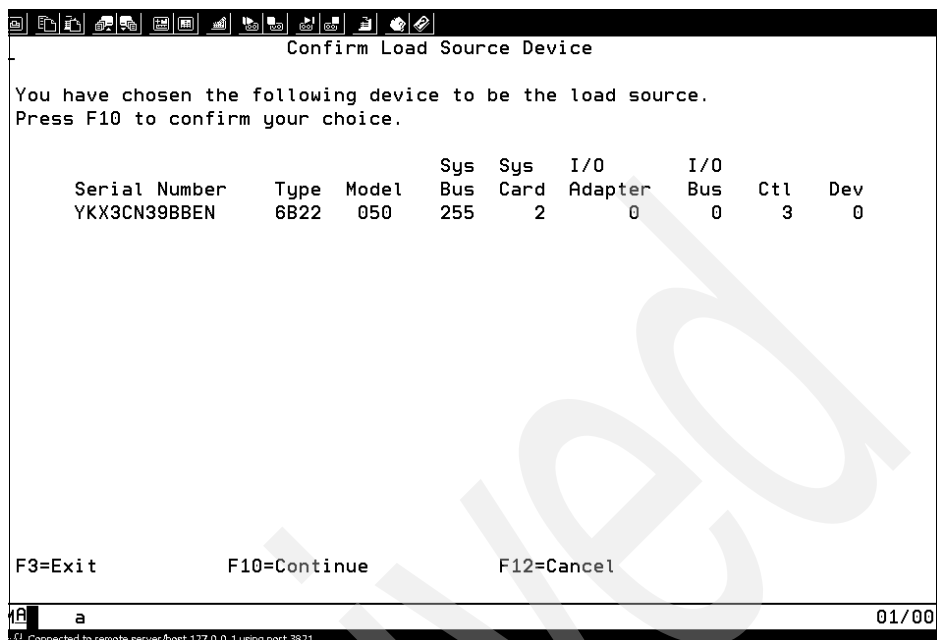

Figure 5-36 Confirm source device
6. Confirm the previous selection of the Load Source Device by pressing **F10**; see Figure 5-36 on page 255.